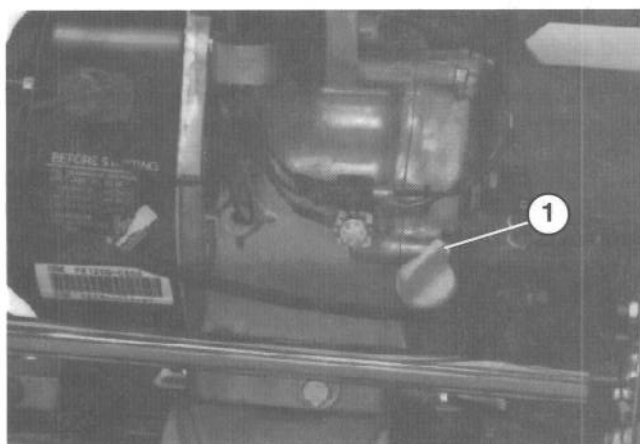

Figure 4
1. Position mower so the engine is level and clean around oil level gauge (Fig. 4).